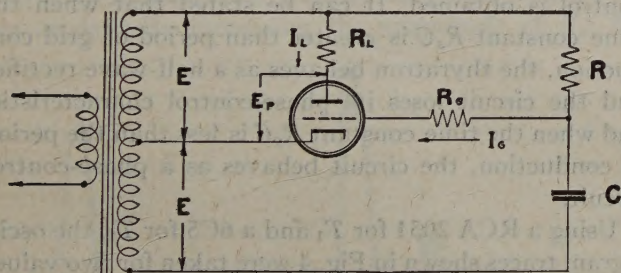
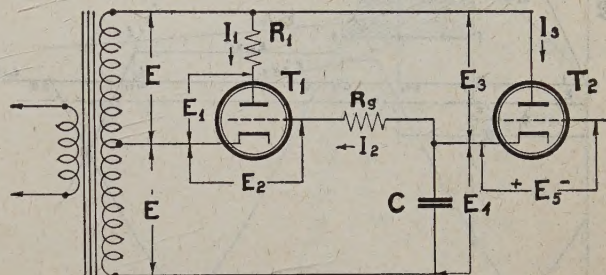
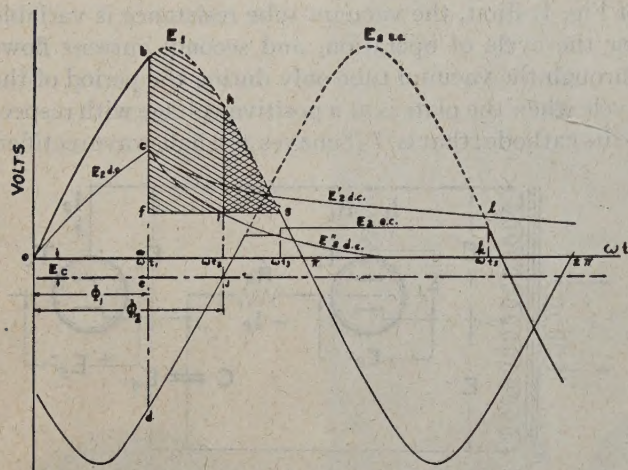
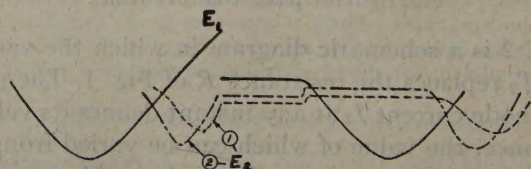

Fig. 1—Basic phase-control circuit.
Fig. 2—Vacuum-tube phase-control circuit.
Fig. 3—Graphical operation of circuit of Fig. 2.
Fig. 4—Trace of oscillograms of the effect of R_g .
BY SUBSTITUTING a vacuum tube for the resistance in the RC component of a phase-control circuit such as Fig. 1, a small grid voltage can be made to control effectively large electrical power. This paper gives an analysis and some operational characteristics of this type of circuit.
In the circuit of Fig. 1, the magnitude of the load current I_L is a function of the phase angle between the plate-cathode and grid-cathode voltage of the thyatron tube.¹⁻⁴ Before ionization of the gas within the tube, their magnitudes and phase angles are determined from the alternating-current steady-state conditions of the circuit. In the vacuum-tube-thyatron phase-control circuit, the magnitude of the thyatron grid voltage and its effective phase angle with respect to the plate voltage is determined not only by the alternating-current steady-state conditions, but also by the transient response of the circuit.
Fig. 2 is a schematic diagram in which the vacuum tube T_2 replaces the resistance R of Fig. 1. The plate-to-cathode current I_3 at any instant defines its value of resistance, the value of which can be varied from several hundred ohms to several megohms. The operation of this circuit differs in two respects from the circuit
of Fig. 1. First, the vacuum-tube resistance is variable for the cycle of operation, and second, current flows through the vacuum tube only during the period of the cycle when the plate is at a positive voltage with respect to its cathode; that is, T_2 behaves as a half-wave rectifier.
Fig. 3 is a graphical representation of the plate and grid voltage of the thyatron tube T_1 . For the sake of simplicity, it is assumed that there is no time lag between the application of the switch and the magnitude of the voltage E ; that is, when the voltage is applied to the circuit, it has an initial value of zero and progresses toward positive values. In the interval oa , the plate and grid voltage of T_1 varies as shown by curves E_1 and E_2 a.s., whereas the direct voltage on the grid due to the rectification action of T_2 rises exponentially as shown by curve E_2 d.s.. When the algebraic sum of these
voltages is equal to or greater than the critical grid voltage E_c of the thyatron, the gas within it ionizes, resulting in a flow of current I_1 (Fig. 2). For instance, at $\omega t = \omega t_1$ the total grid voltage is represented by line $ae = ac - ad = E_c$ where a, c, d, e are points as shown on the volt- ωt diagram of Fig. 3.
During the period oa the condenser C in Fig. 3 accumulates a positive charge. At $\omega t = \omega t_1$, the gas within the thyatron ionizes, thereby providing a leakage path for the charge on the capacitor from the grid to the cathode within the thyatron tube. The accumulated charge on the condenser will leak off through the grid resistance, the rate of leakage depending on the value of R_g and C . The charge leaks off during the interval $\omega t_5 - \omega t_1$.
Using a RCA 2051 for T_1 and a 6C5 for T_2 , the oscillogram traces shown in Fig. 4 were taken for two values
Note also that there is a difference of phase-angle shift between curves (1) and (2). In the analysis of Fig. 3, it was assumed that the initial charge on the condenser C was zero. That it is not so is evident from Fig. 4. During the conduction period from grid to cathode of T_1 less charge leaks off for the case of $R_g = 0.1$